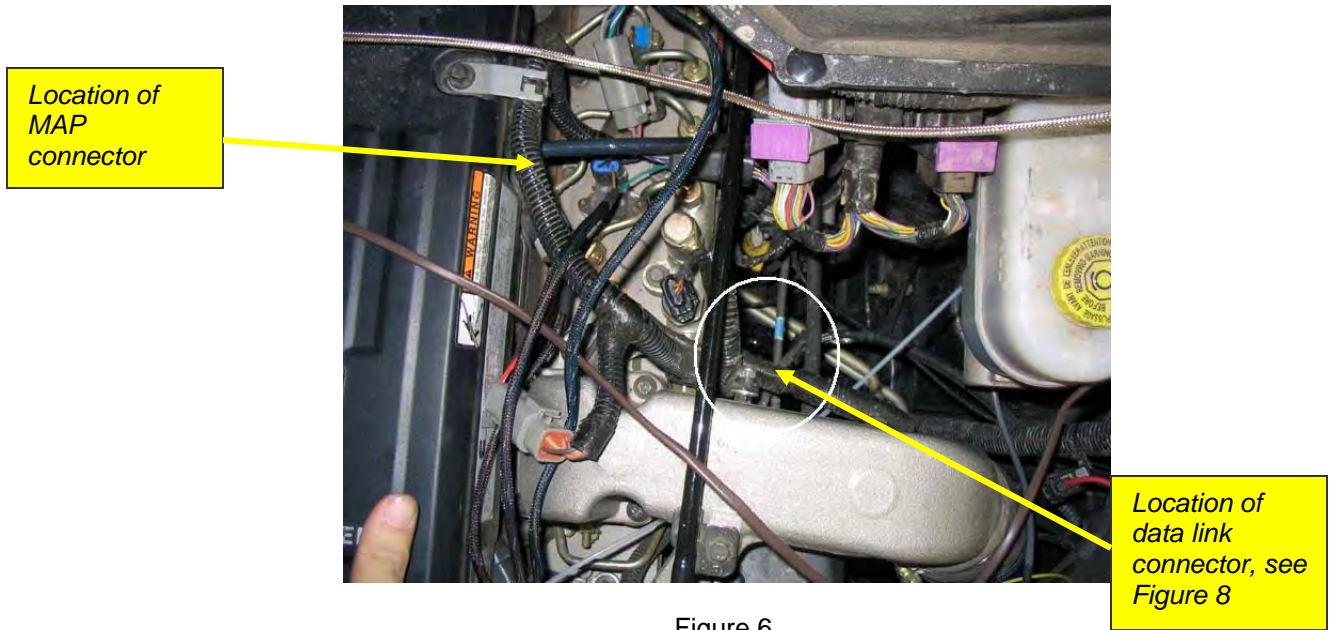

Figure 6.
4. Now install the MAP connector which is between the middle and back injector connectors on top of the motor, see figures 6 & 7.
5. Next, install the data link connector. The data link connector is behind the air intake horn down toward the bottom of the engine (see figures 6, 8, & 9).